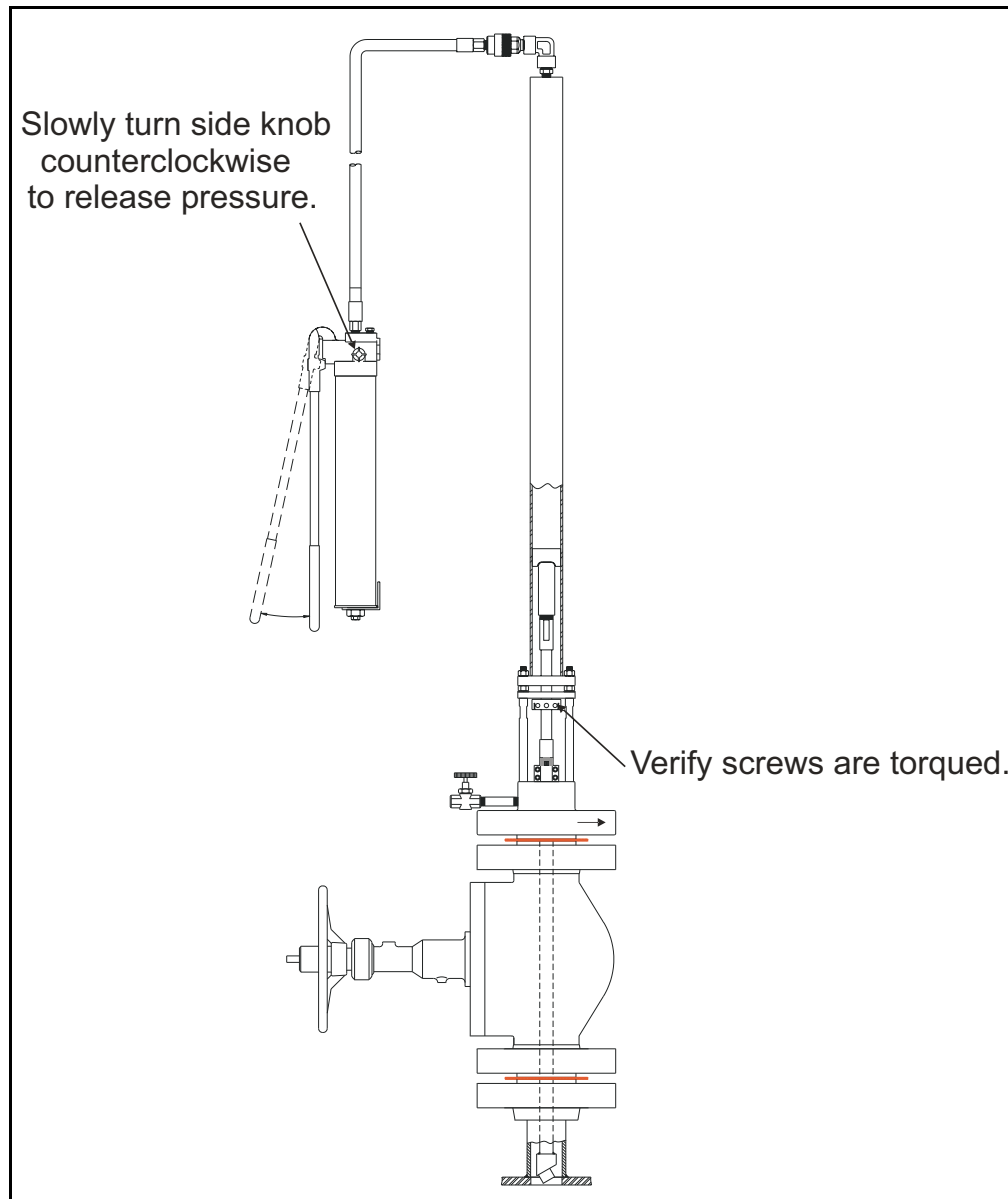

Figure 29: Releasing the Hydraulic Cylinder Pressure
1. Verify that the screws on the locking and safety alignment collars are tightened to the appropriate torque. Then, very slowly turn the side knob of the hydraulic pump counterclockwise to release the pressure of the hydraulic cylinder on the transducer shaft (see *Figure 29* below).